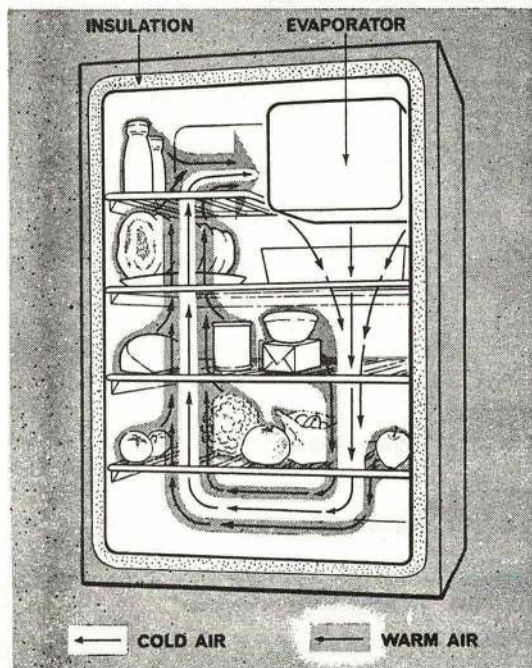

Fig. 17. AIR FLOW
71. The principle of operation is illustrated at Fig. 17. When the air around the evaporator is cooled its density and weight are increased, causing it to move downwards. As this air passes over the contents of the cabinet it receives heat from them and thus becomes less dense and not so heavy, so that the air now rises to the top of the cabinet. This causes circulation of the air as shown in Fig. 17. The air in the cabinet is at its lowest temperature immediately below the evaporator and is warmest in the top left-hand corner. Advantage should be taken of this fact when positioning the different contents. The cabinet temperature is regulated normally, except for kerosine operated equipment, by means of a thermostat.